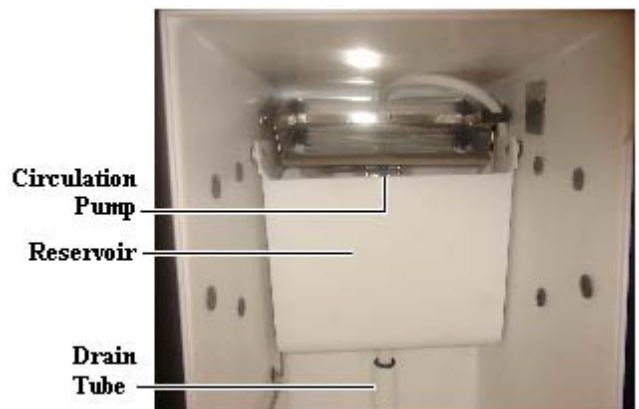

Figure 6.3
7. Remove the reservoir by lifting the drain tube off the reservoir and away from the circulation pump (see figure 6.3).
Gently lift reservoir off drain tube (figure 6.3), then lower the reservoir to clear the circulation pump.